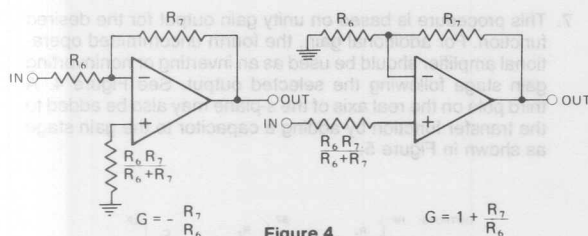
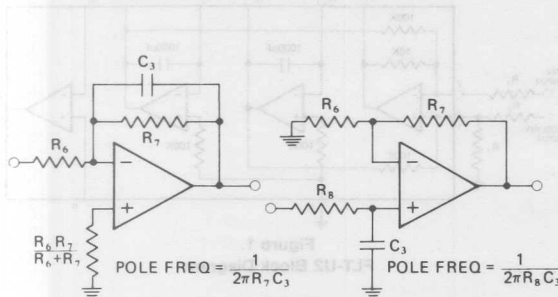

Figure 4.
Figure 5.
7. This procedure is based on unity gain output for the desired function. For additional gain, the fourth uncommitted operational amplifier should be used as an inverting or noninverting gain stage following the selected output. See Figure 4. A third pole on the real axis of the s-plane may also be added to the transfer function by adding a capacitor to the gain stage as shown in Figure 5.